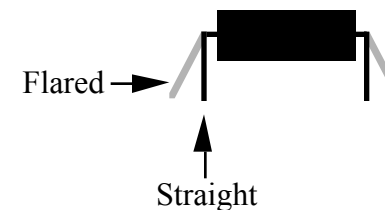

Figure 4-9
When you install ICs in the following steps, always straighten the leads of each IC first as shown in Figure 4-9. The two rows of pins must be straight and parallel to each other to establish the proper pin spacing for insertion into the PC board or socket.
- Straighten the leads of U2 (see Figure 4-9).
- Straighten the pins of the microcontroller, U6 (see Figure 4-9). With large IC such as this, you can hold the IC body at the ends as you re-form each row of pins.